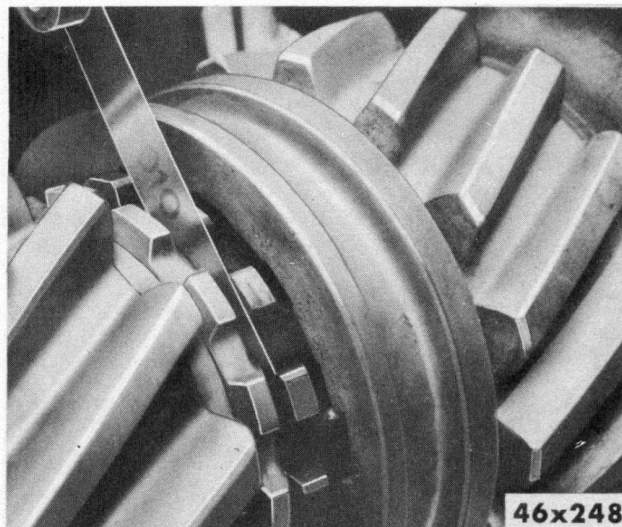

Fig. 81—Checking Cross Shaft Spur Pinion End Play
- (5) Press bearing firmly against bevel gear using suitable sleeve.
- (6) Check pinion end play with feeler gauge to assure a clearance of at least .010 inch. Normal end play will be from .015 inch minimum to .030 inch maximum (Fig. 81).
- (7) Install poppets and springs and coat with axle lubricant.
- (8) Align all three tapered shift collar splines with poppets and position with *wide* shift collar splines toward the bevel gear.
It must check to minimum of .010 inch (Fig. 81).